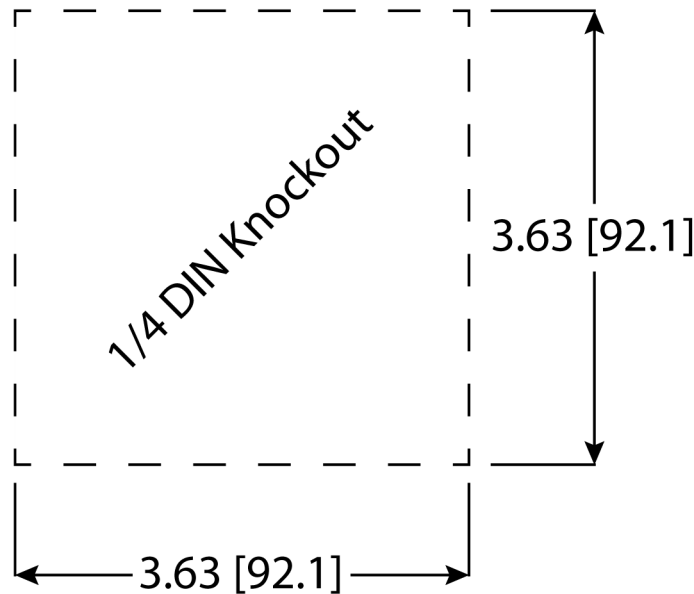

Figure 3.06: Knockout Dimensions
- Make a 1/4 DIN (3.63 in x 3.63 in [92.1mm x 92.1mm]) size hole in the cabinet (Figure 3.06).